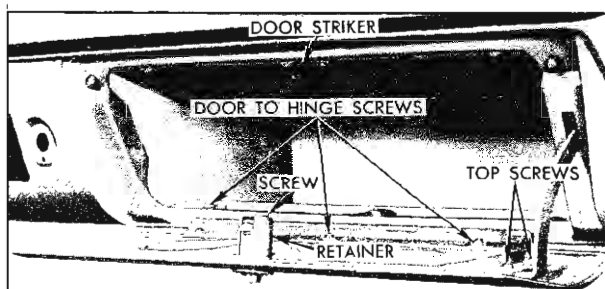

Fig. 11-23 Instrument Panel Compartment Door Assembly
2. Remove hinge stop attaching screws from door. Disengage side reveal moldings and outer ends inner panel (Fig. 11-23).
3. Remove door hinge attaching screws from door inner panel and remove door (Fig. 11-23).
3. The door lock striker may be adjusted by loosening attaching screws and moving striker forward or rearward (Fig. 11-23).
1. Remove hinge stop attaching screws (Fig. 11-23) and remove from body.